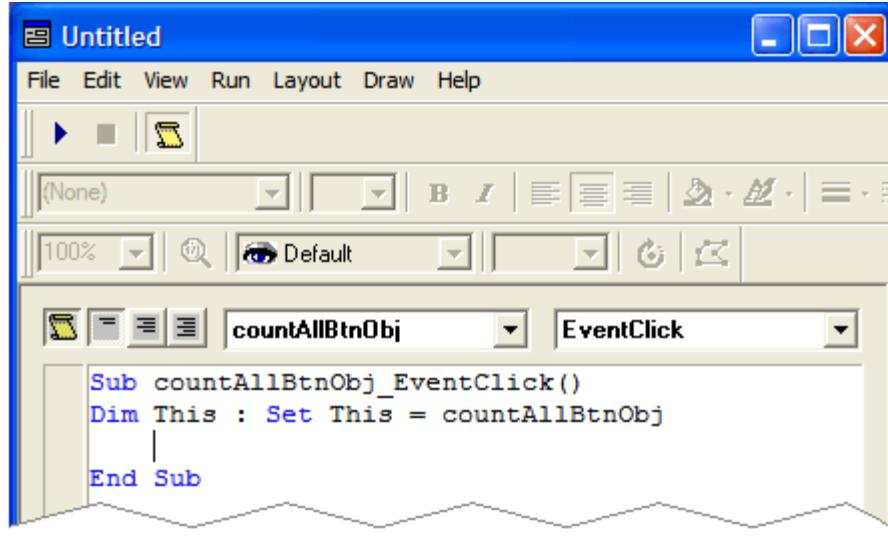

Figure 4-17. The event handler for the Count All button's click event.
- 3) Double-click on the **Count All** button in the form editor to access the event handler for the **Count All** button's click event as illustrated in Figure 4-17.